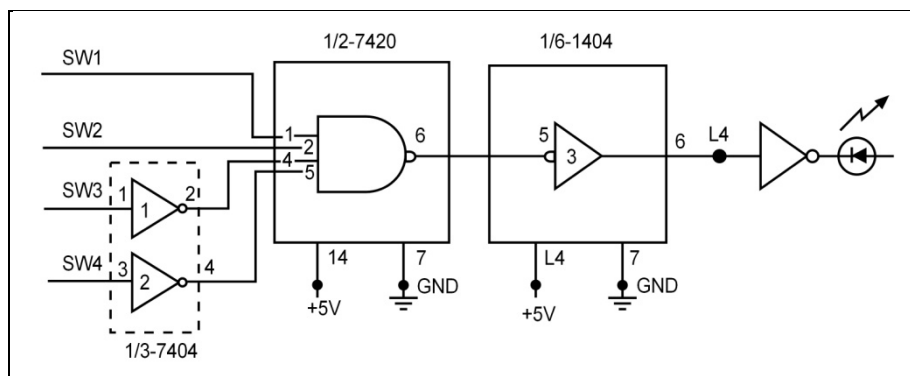

Fig. 1-1 Decoder Circuit for Steps 1 and 2
1. Construct the decoder circuit shown in **Fig. 1-1**. The data switches (SW1-SW4) will provide the input. LED indicator (L4) is the output. Be sure to connect +5 volts and ground to pin 14 and pin 7 of the two ICs.